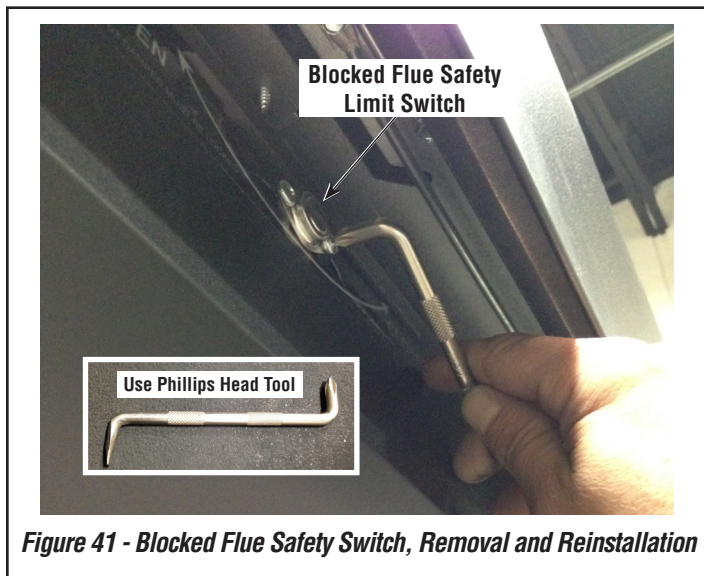

Figure 41 - Blocked Flue Safety Switch, Removal and Reinstallation
This appliance is equipped with a manually-reset blocked flue safety limit switch. Refer to **Figure 41** for its location. If, during appliance operation, the flame goes out (independently of the burner on/off wall switch), it may be due to the operation of this safety limit switch. **First allow the appliance to cool**, then reset the safety switch by pressing the red reset button on the back of the switch.
To access the blocked flue safety limit switch, refer to **Figure 41**:
1. To access the blocked flue safety switch, remove the two (2) phillips head screws (shown in **Figure 41**) and pull out switch.